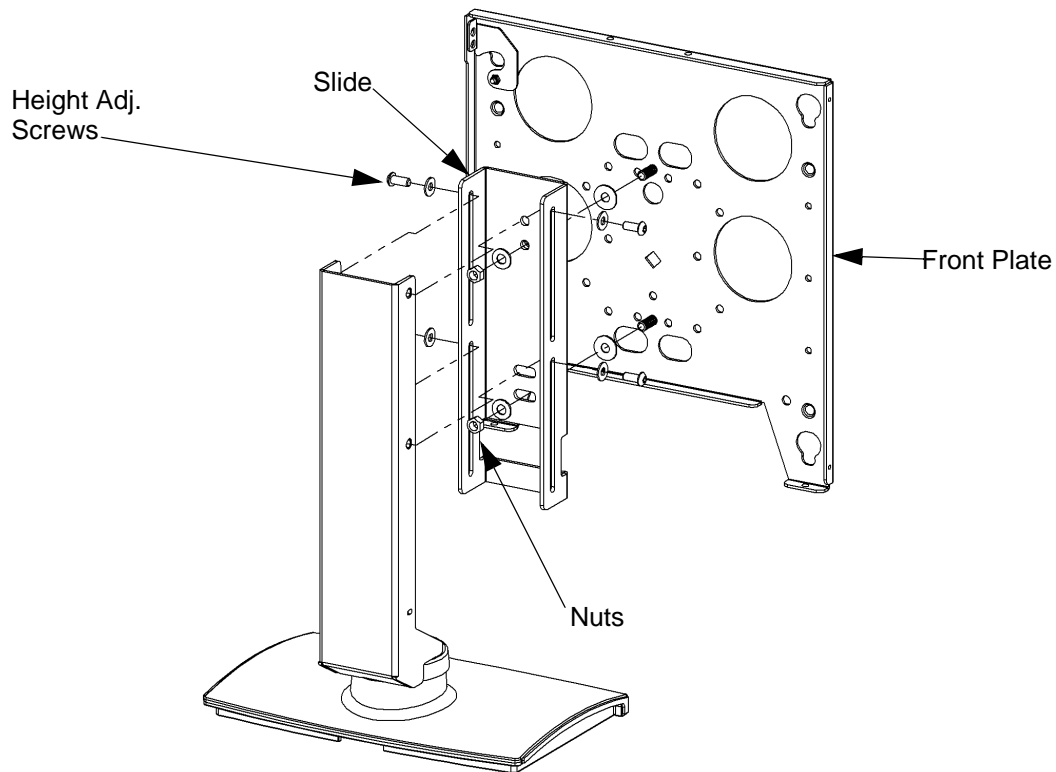

Figure 3. Stand Assembly
1. Remove the slide from the base by removing four height adjustment screws (see Figure 3).
2. Remove the front plate from the slide by removing two nuts securing the front plate (see Figure 3).
4. Install the slide on the base using the four height adjustment screws (see Figure 3).